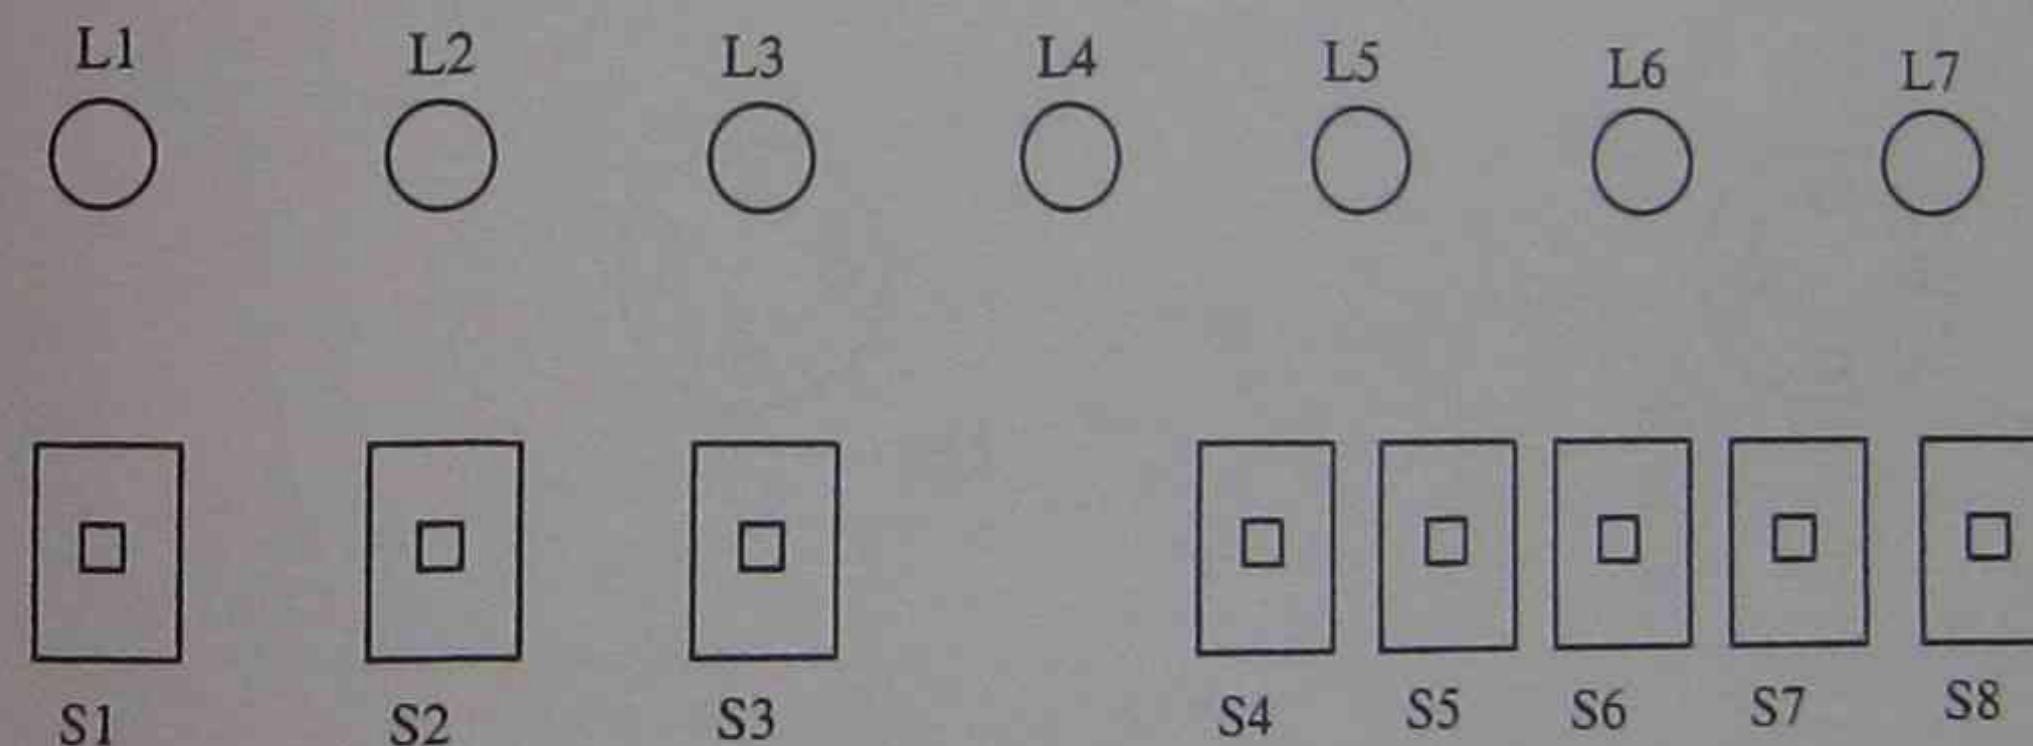

Figure 8 Lighting circuit cable arrangement
3. Complete the diagram of Figure 8 by drawing the cable arrangement for the lighting circuit. TPS cables and the 'loop at the switch' method of wiring are to be used. On the diagram clearly show the types of cable to be used (eg SDI, twin, twin and earth).